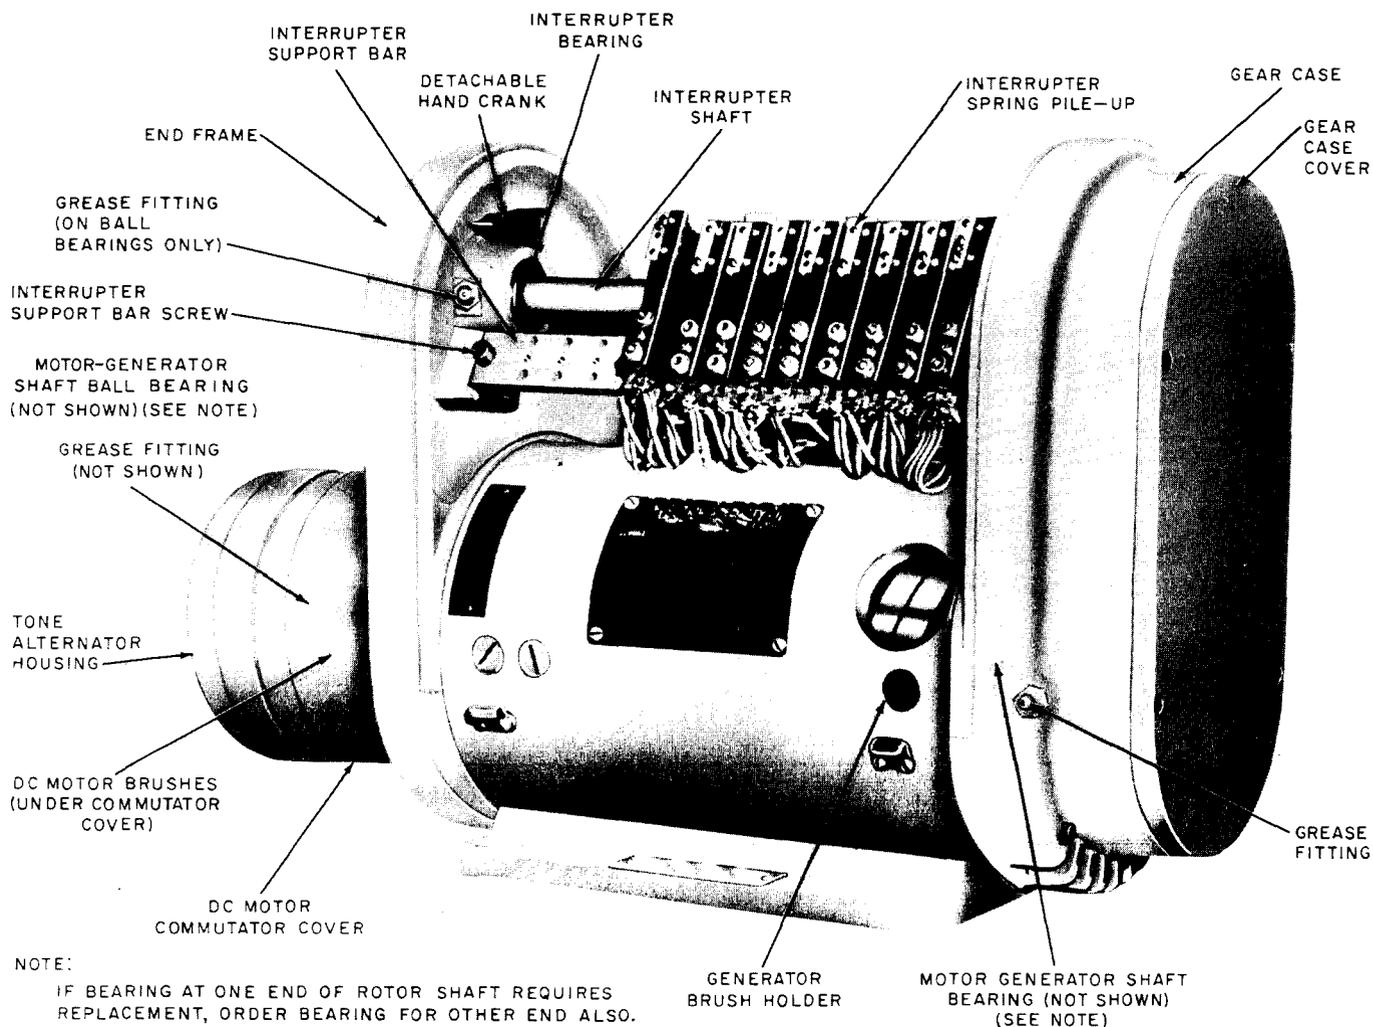

Fig. 1—KS-15532 DC Motor-Driven Ringing Machine—Interrupter Cover Removed—Tech Systems Company (formerly Electric Specialty Company)
2.01 The illustrations (Fig. 1 through 8) included in this part show the various replacement parts in their proper relation to other parts of the apparatus with their corresponding names.
Note: Due to the similarity of the ac motor driven and the dc motor driven ringing machines, only the dc motor driven ringing machines are shown in Fig. 1 through 8.
(a) **Tone Alternator End:** To remove the interrupter shaft ball bearing, proceed as follows (see Fig. 1 and 6).